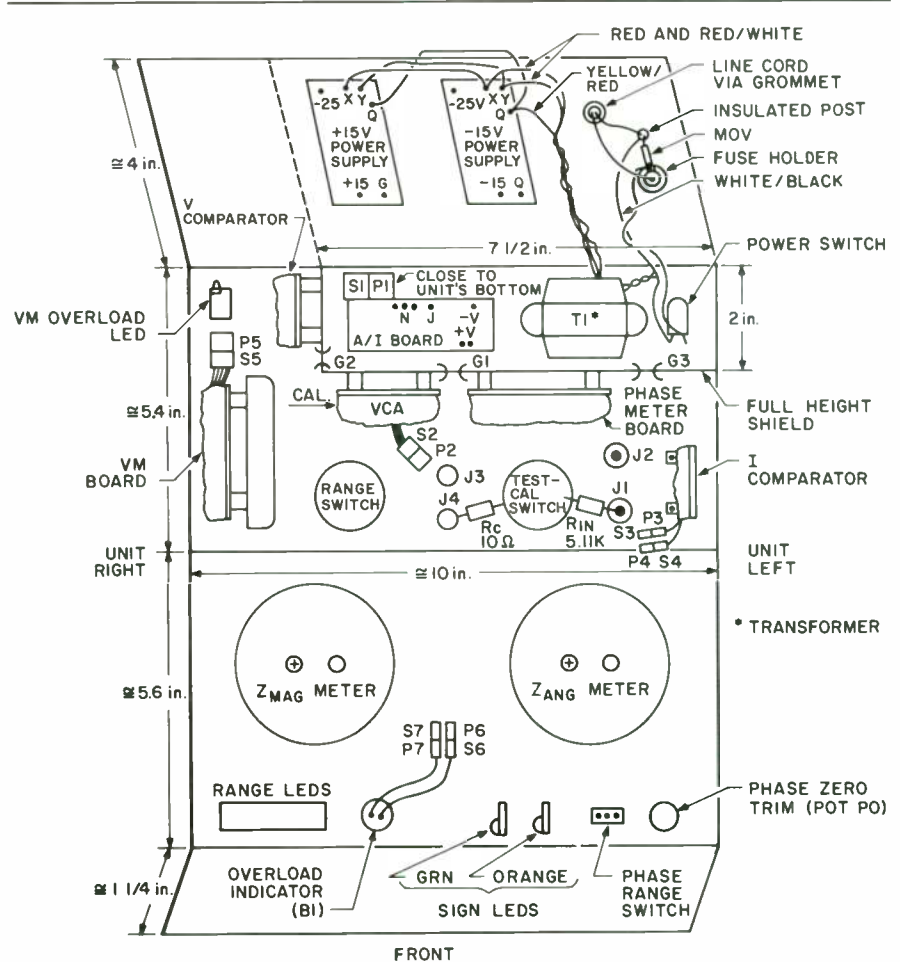
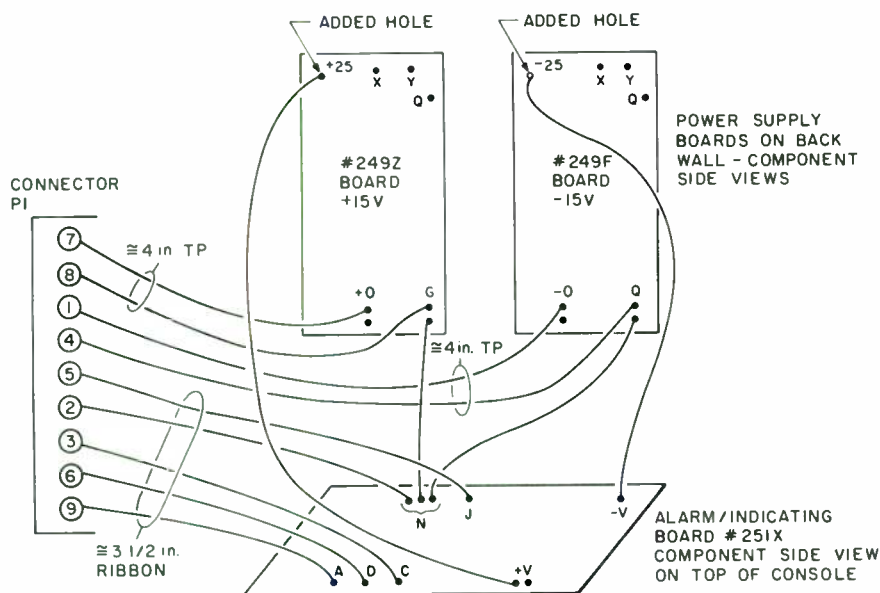

FIGURE IV-14: Parts placement of the Z meter, which contains three construction layers.
FIGURE IV-15: Power supply and alarm section wiring.
(SB 3/83, p. 19). The information needed to build the circuit boards is shown in Table IV-1. Note that you should add holes to these circuit boards to tap off preregulated voltage across the filter capacitor (C6 on each supply). A convenient location for these holes is illustrated in Fig. IV-15.
Figure IV-14 shows the placement of all the components, including connectors, in the Z meter. The three construction layers contain the following components:
LAYER ONE CONSTRUCTION. The power supplies comprise a large portion of the first layer's circuitry. Figure IV-14 shows their approximate
A full-height, thin aluminum, L-shaped shield is bolted to the top and back wall, isolating the power supply section. Shown in Fig. IV-14, this shield, which is removable for servicing, has three grommets notched in from the edge, making them removable also. Grommet G1 is against the top panel, while grommets G2 and G3 are at the free-standing edge of the shield. Figure IV-15 shows the remaining wiring inside the power-supply area. The open and twisted pair (TP) wire is 24-gauge hookup wire. The "ribbon" is scraps of 26-gauge ribbon cable.